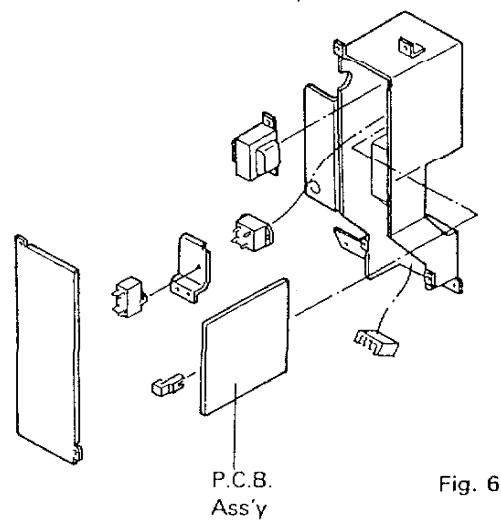

Fig. 6
- 2) Pull the P.C.B. Ass'y. Fig. 6.